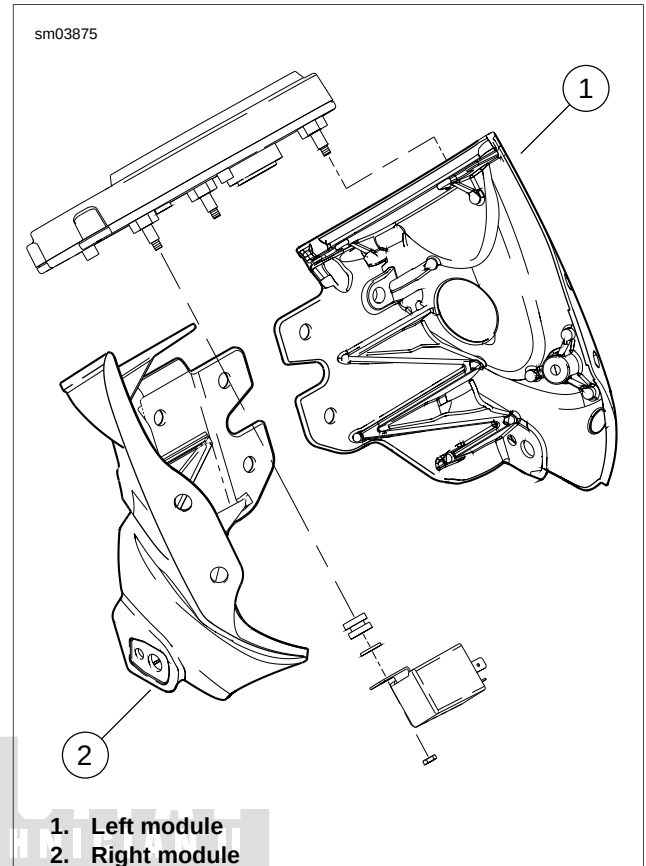
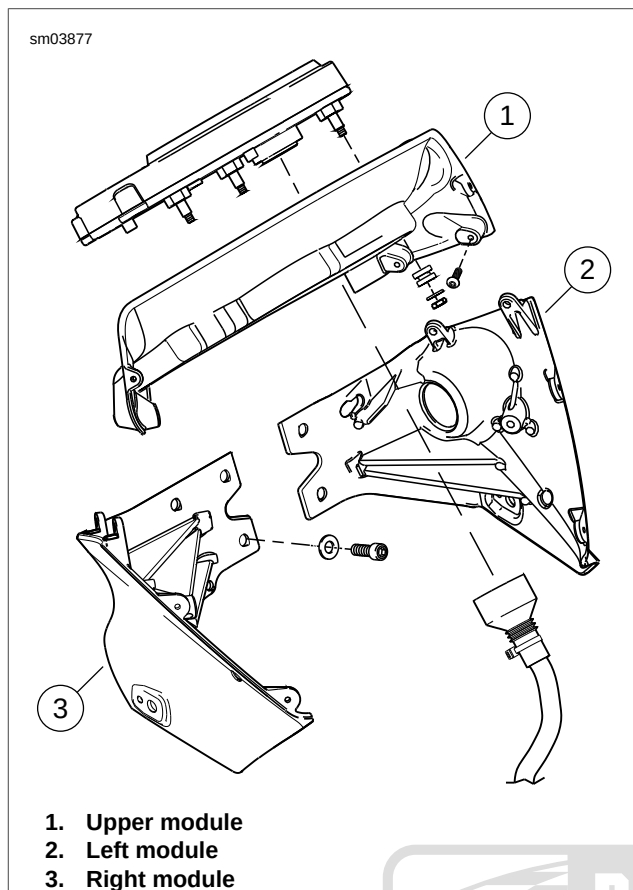

Figure 2-148. Front Modules: Lightning
Figure 2-150. Front Modules: Ulysses
7. See Figure 2-150. **Ulysses Models:** Remove upper module fasteners and remove upper module.
See Figure 2-148 (Lightning) or Figure 2-150 (Ulysses). Once the clamp load has been released on the final fastener securing the right front module to the upper triple clamp, the left front module can be removed.
12. See Figure 2-148 (Lightning) or Figure 2-150 (Ulysses). Remove the left front module.
7. See Figure 2-150. On Ulysses models, install upper module. Tighten fasteners to 36-60 **in-lbs** (4.1-6.8 Nm).